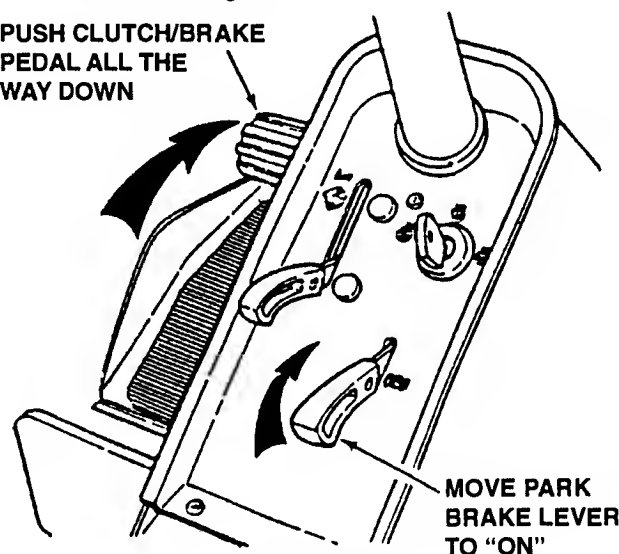

FIGURE 2.14
1. Engage park brake by pushing Clutch/Brake Pedal "DOWN" and moving the park brake lever to the "ON" POSITION. While holding the park brake lever "ON", release Clutch/Brake Pedal to set park brake. See Figure 2.14.